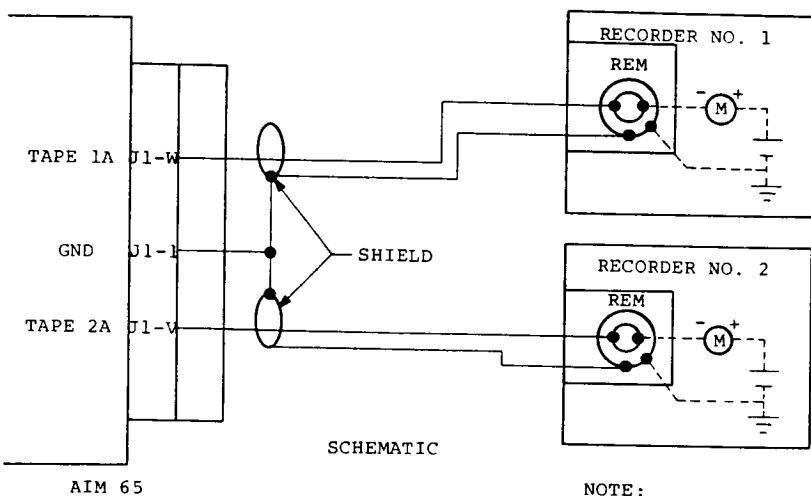

Figure 9-3. Audio Cassette Recorder Remote Control Connections - Type II (PRC)
7. Connect the remote control cable to AIM 65 Application Connector J1 per Table 9-1. Figures 9-3 and 9-4 show hookups to recorders with Type II (PRC) and Type IV (PVC) remote control circuitry, respectively.